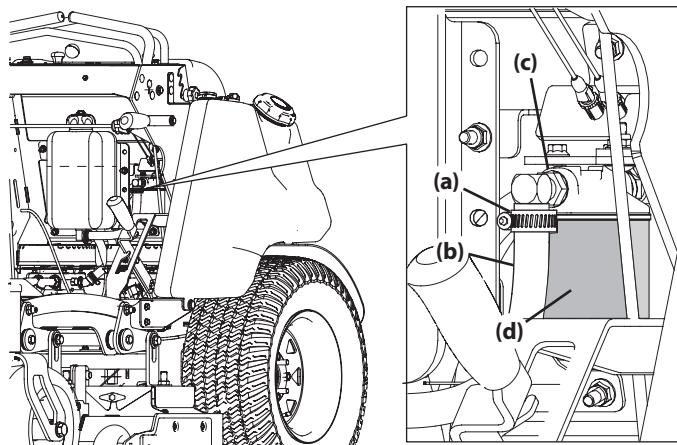

Figure 25
2. Loosen the hose clamp (a) securing the transmission oil hose (b) to the transmission oil filter assembly (c). See Figure 25.